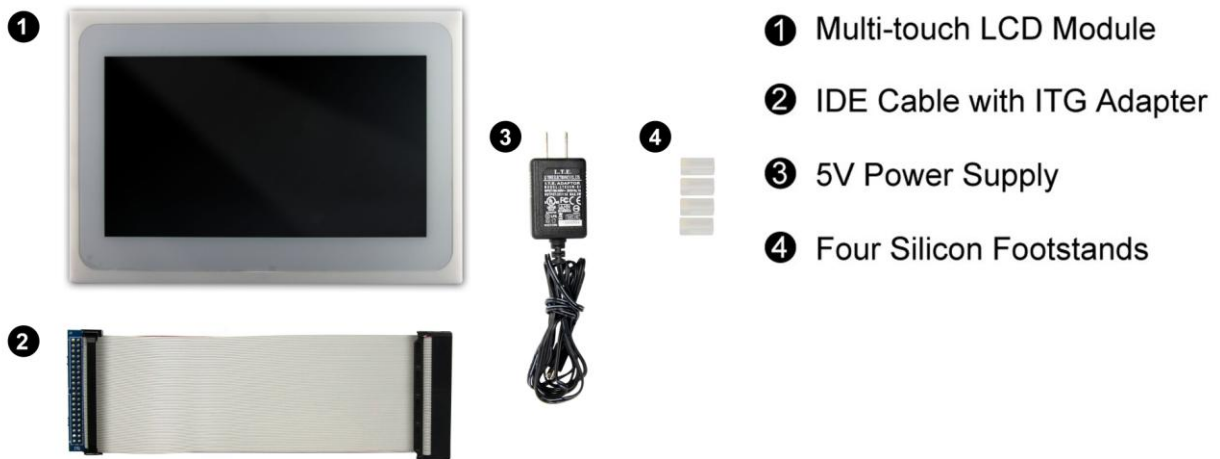

Figure 1-1 Contents of MTL2 Kit
**Figure 1-1** shows the contents of MTL2 kit.